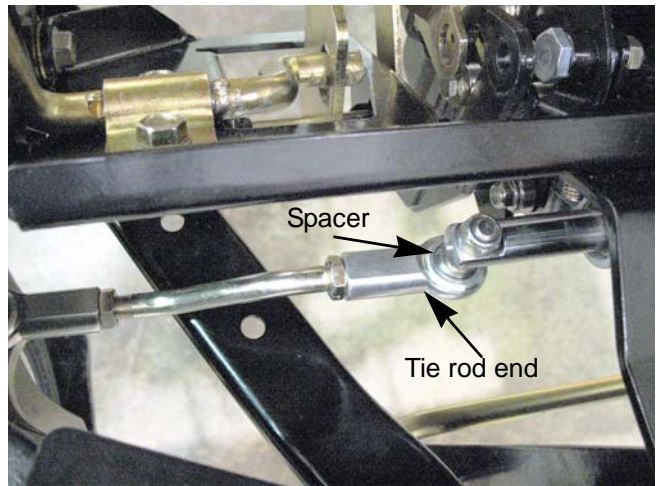

Figure 6.12
8. Disconnect both of the tie rods from the steering gearbox using a pair of 1/2" wrenches. See Figure 6.12.